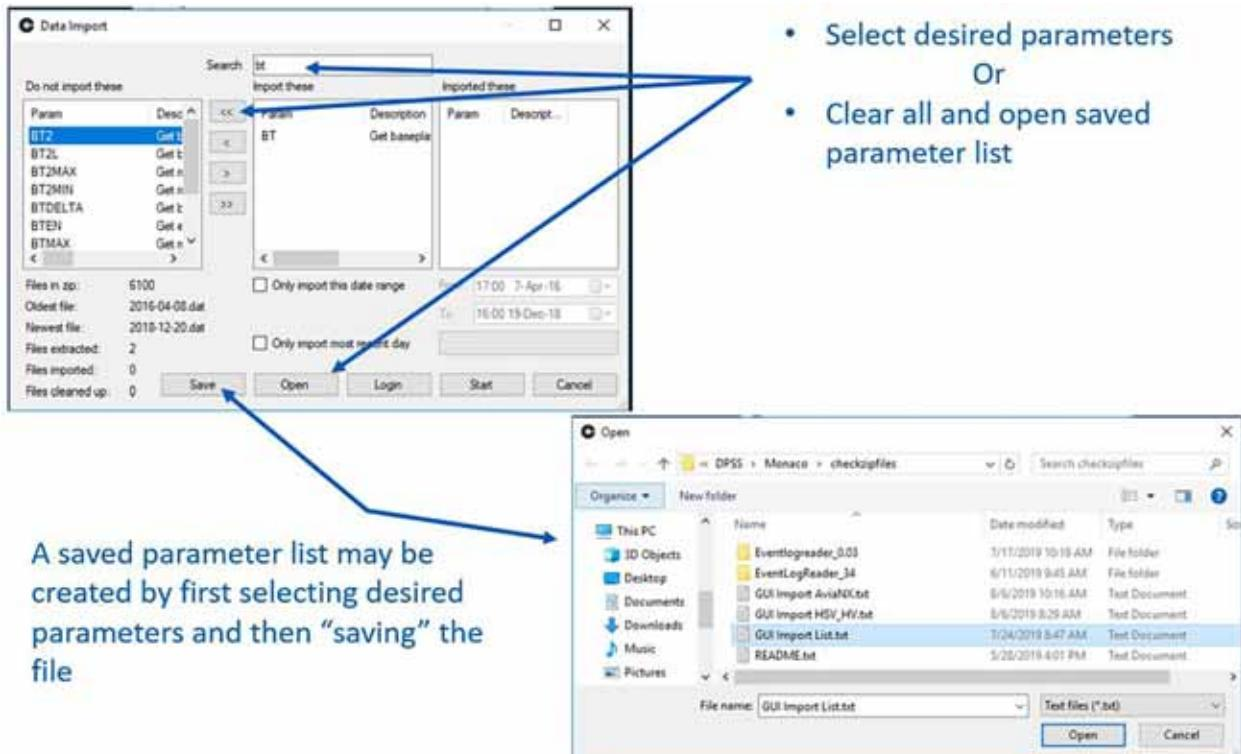

Figure 3.2-4. Selecting Parameters from Log File
4. Select all the desired laser parameters. If a saved parameter list is desired instead, clear all the parameters and open the parameter list text file. A saved parameter list may be created by first selecting all the desired parameters and then “saving” the file (see Figure 3.2-4).